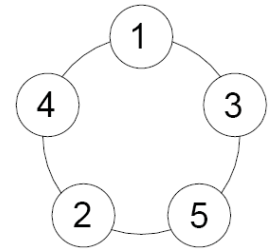

Figure 36
- b. Tighten bolts or nuts in the sequence as shown in Figure 36.